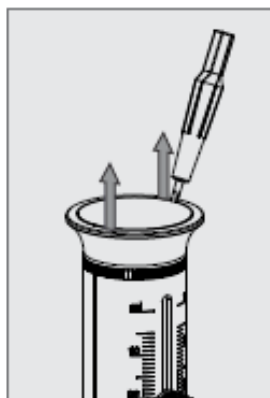

Fig. 11
1. Open the cap with calibration tool as shown in Fig. 11